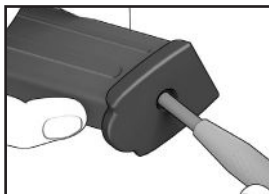

Figure 30
1. Using a punch, depress the locking plate located in the floorplate and hold it there. (see Figure 30).